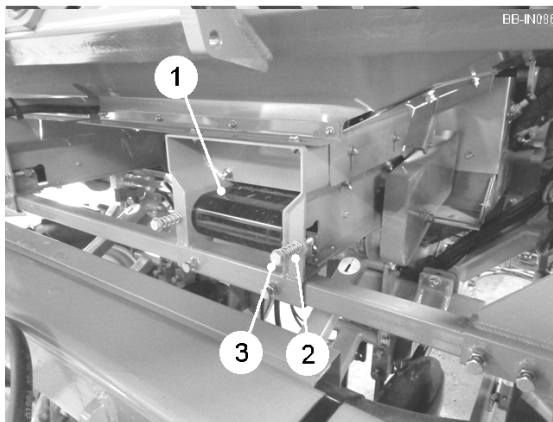
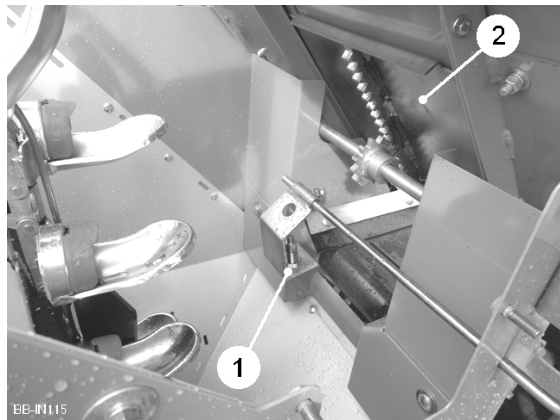
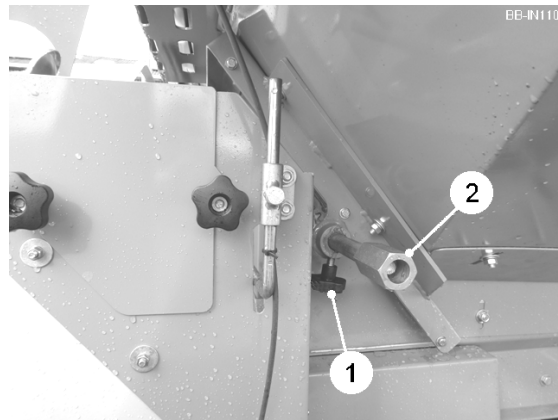

Fig. 4
Fig. 6
Fig. 7
The feed belts (item 1, fig. 4) convey the seed potatoes from the hopper to the feed pockets. The belts run intermittently to keep the feed pockets supplied with the correct amount of seed potatoes. Each belt is actuated by a sensor (item 1, fig. 6) mounted inside the feed pocket. When the quantity of potatoes in the pocket gets to a minimum (or the pocket is empty), the sensor gives an impulse causing the relevant motor to engage and drive the feed belt to transport the potatoes to the feed pocket. When the quantity of potatoes in the feed pocket gets to a maximum, the sensor gives the relay a new impulse which then causes the belt to stop. The feed belt will remain at standstill until the quantity of potatoes in the feed pocket is small enough that the process is repeated. This way the potato layer in the feed pocket is always kept thin and the cups do not damage the potatoes.
To create a positive drive, spring-loaded tensioners (item 2, fig. 4) maintain constant tension on the belt. To alter the tension, turn the tensioner screws (item 3, fig. 4). Ensure both sides are adjusted evenly.
When planting, check the flow of potatoes from the hopper to the cups is satisfactory and that no 'bridging' occurs. The hopper openings can be altered by adjusting the regulator plates (item 2, fig. 6). The regulator plates should be set lower for small potatoes and higher for large potatoes. To adjust the regulator plates, loosen the locking knob (item 1, fig. 7) and turn the hexagon bar (item 2, fig. 7).